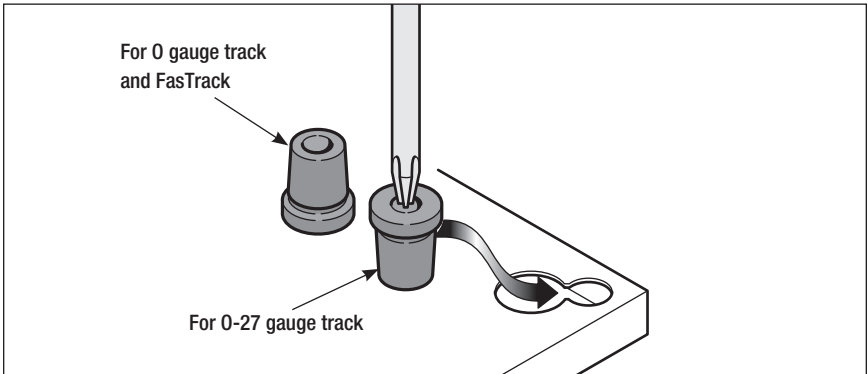

Figure 1. Installing the corral feet
1. Be sure to install the rubber feet on the bottom of the corral. The shorter end of the feet should be exposed for O-27 gauge layouts; the taller ends should be exposed for O gauge and FasTrack layouts. As illustrated in Figure 1, use a nail or a screwdriver inserted into the holes to help you position the feet.